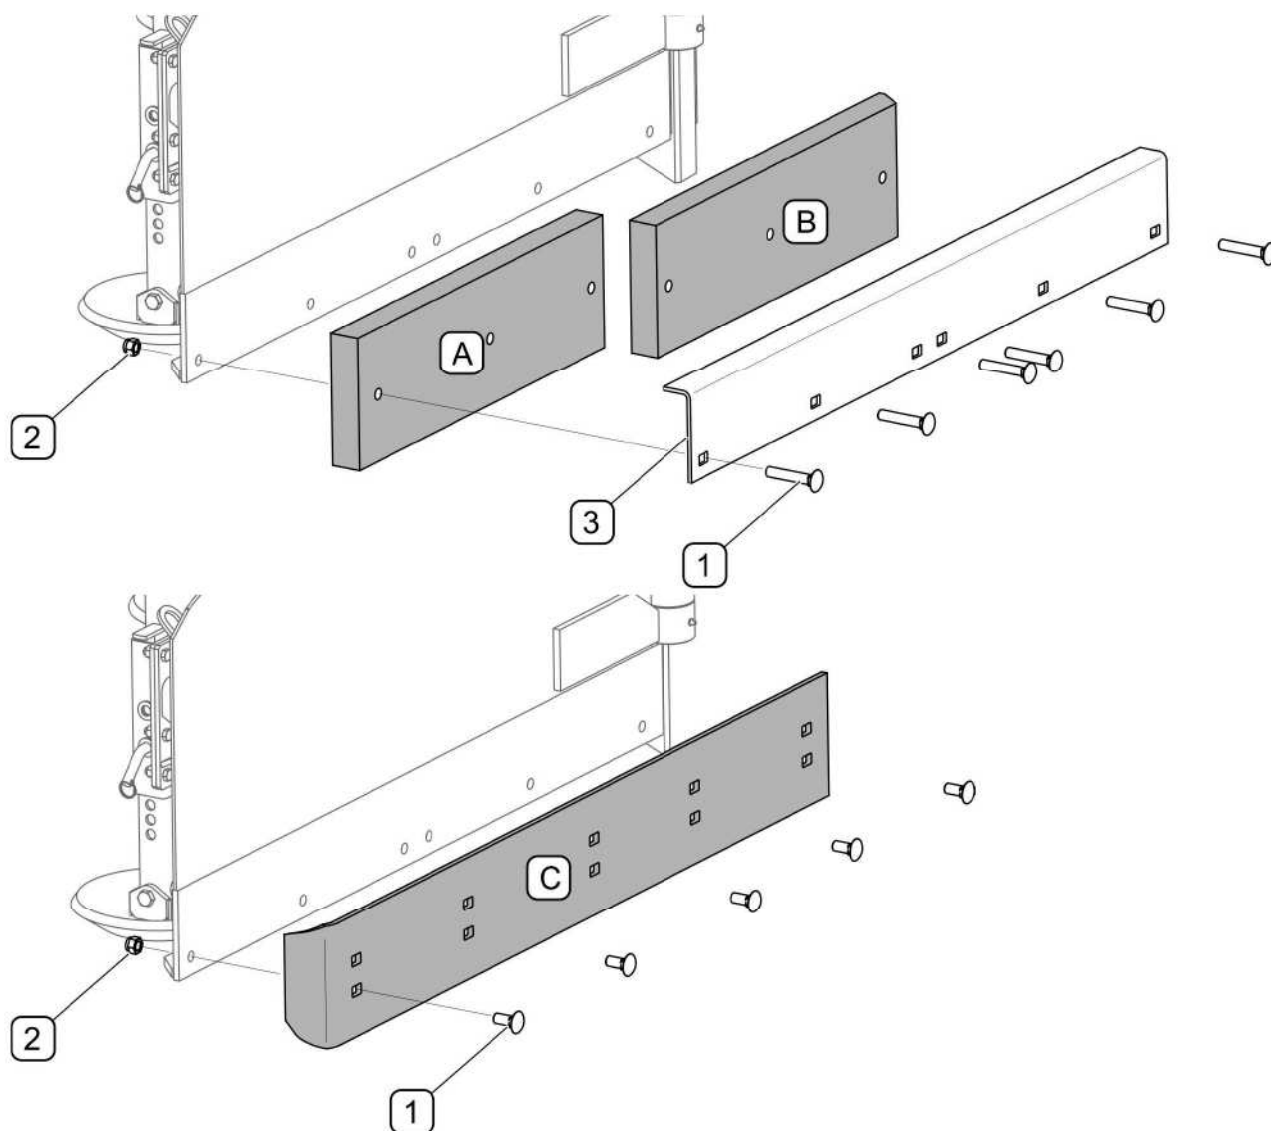

FIGURE 5.1 Replacing collecting strip
Rubber collecting strip consists of two segments (A,B) (FIGURE 5.1). To remove the segments of the strip, unscrew the nuts (2), remove screws (1) and remove the clamp strip (2). Install in reverse order.